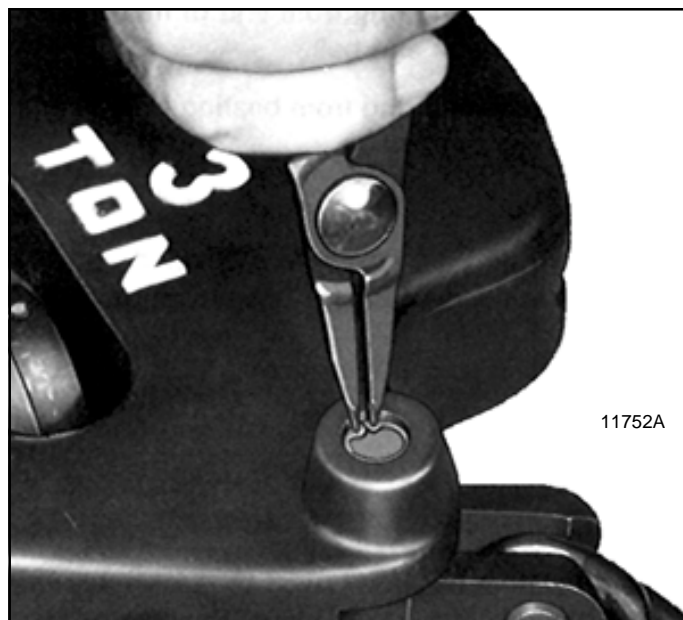
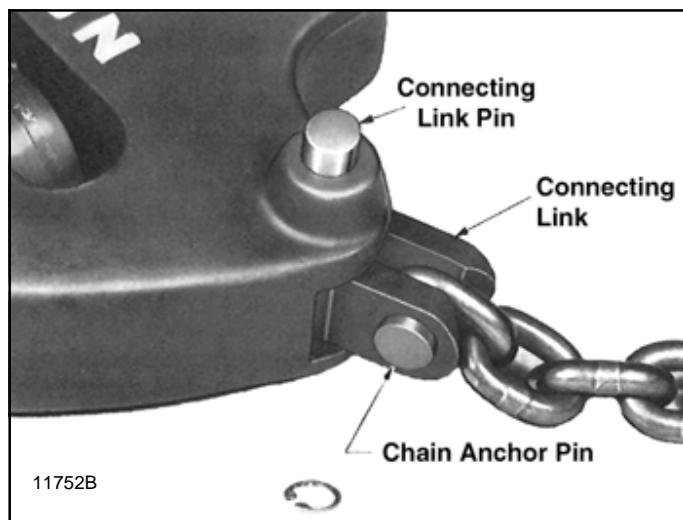

Figure 7-30. Removing Retaining Ring from Bore of Connecting Link Pin - 3 Ton Lower Block Assembly
Figure 7-31. Removing Connecting Link Pin from 3 Ton Lower Block Assembly
(1) Remove chain sprocket from lower block following procedure for 2-ton link chain models described in paragraph 7-5. b. (2) above.
(2) To disconnect end of chain anchored to lower block, remove retaining ring from pin bore (fig. 7-30). Push connecting link pin from bore by pressing through hole provided in opposite side of block (fig. 7-31). Chain connecting link is now free and can be further disassembled for inspection.